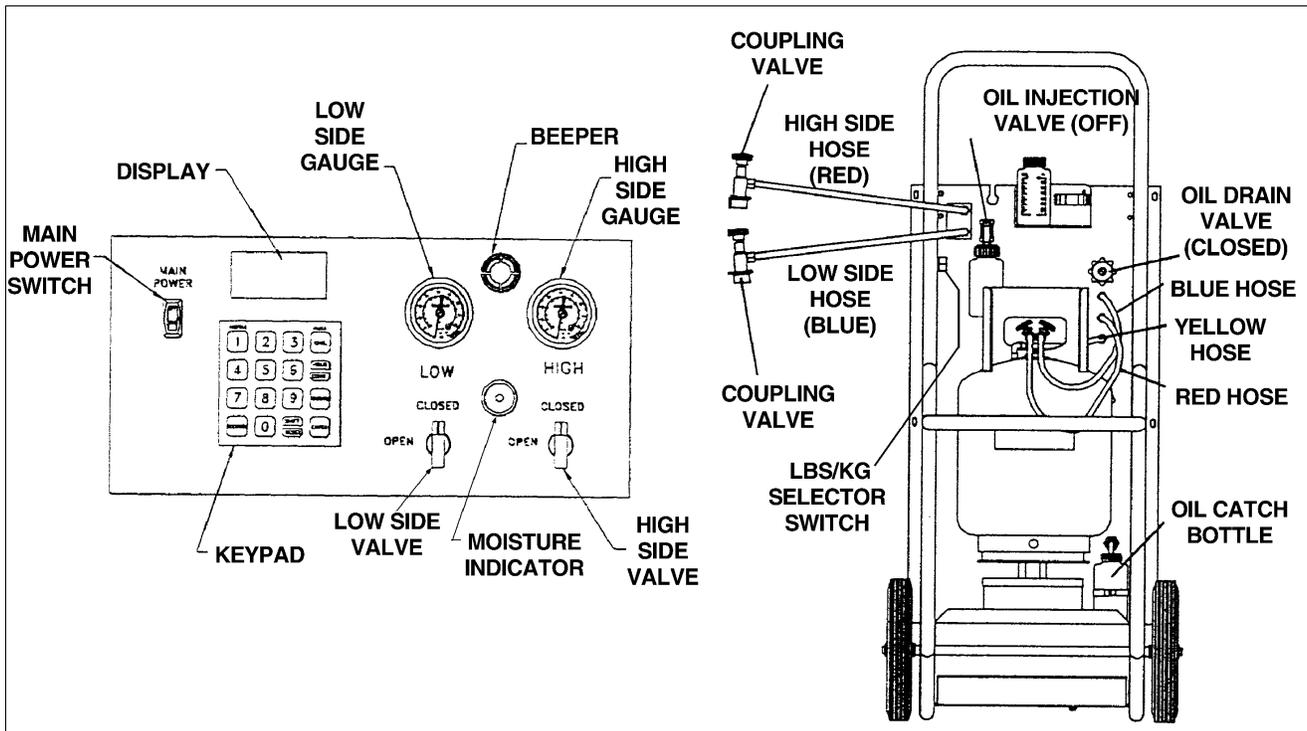

Figure 21-7. Robinair 34700 Control Panel and Hose Connections
- a. Using the Robinair 34700 (R-134a systems only) ( ref. Figures 21-7 and 21-8 )
- (1) Remove access panel at rear of cabin to gain access to service valves.
- (2) Remove protective caps from the high and low side service ports on the evaporator unit.
- (3) Close both the low side and high side valves on charging unit ( ref. Figure 21-7 ).
- (3) Disconnect small end of blue hose from low side port of Robinair charging/test stand. Connect yellow manifold hose to units low side port. See manufacturer's instructions for other model charging/test stands ( ref. Figure 21-7 ).
- (4) Check that all valves on manifold and test stand are closed. Connect manifold hoses to service valves. On systems equipped with quick disconnect connections, open coupler valves ( ref Figure 21-7 ).
- (5) OPEN Low side valve on recharging/test stand.
- (6) Open both the red GAS (vapor) valve and the blue LIQUID valve on the tank.
- (7) Program the length of evacuation time.
- (1) If recharge/test stand is not already connected to system, follow steps (1) through (4) in paragraph D, 3, a, above.
- (2) Open the high side (2) valve and allow 1/2 pound of refrigerant to enter the system. Close high (2) side valve. ( refer to Figure 21-7 and 21-8.)
- (3) Locate leak(s) using an electronic leak detector designed to detect R134a refrigerant. Or, use soap and water in a thick solution.
- (4) Repair leak(s).
- (5) Discharge system per paragraph D, 5.
- (6) Perform evacuation procedure per paragraph D, 3, a.
- (7) Immediately perform charging procedure per paragraph D, 6.